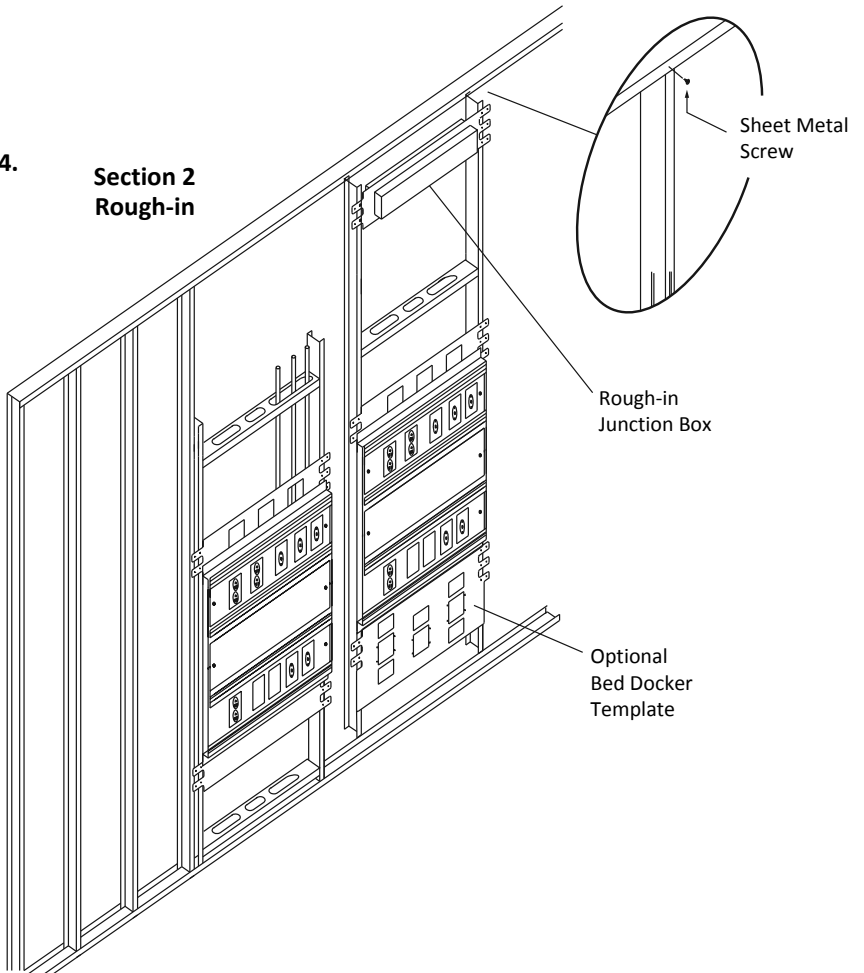

Figure 5.
3. Place Section 3 (right section) into bottom plate and attach to previous section (Figure 5). All sections should be attached to one another and the finger joints of the sections should be tight and flush. Level the completed sections, tighten all screws, and complete attachment to top and bottom plates.